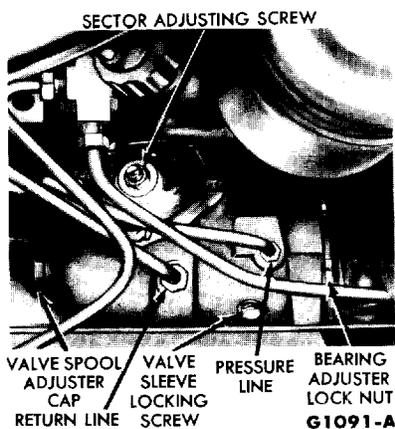

FIG. 7—Adjustments
1. Disconnect the pressure line from the gear (Fig. 7), and install the pressure testing tool between the line and the gear. **Be sure that the pressure gauge is between the pump and the shut-off valve on the tool.**
3. If the difference is more than 3 in-lbs (or ½ pound at the wheel rim), remove the valve spool adjuster cap (Fig. 7).
2. Loosen the sector shaft adjusting screw locknut, and back off the adjusting screw (Fig. 7).